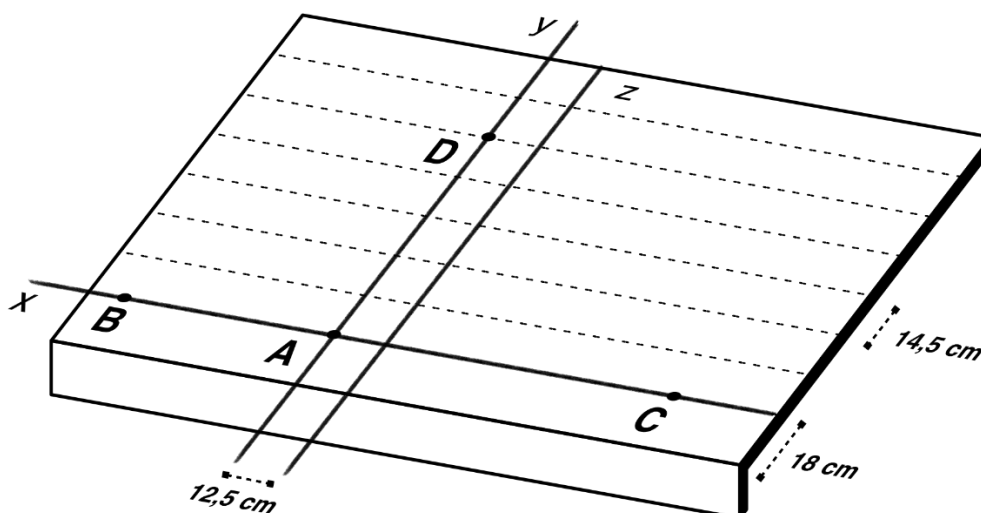

Fig. 3 - Tracing of the pitch [cm]
- Draw horizontal lines parallel to **x**, each one distant 14,5 cm from the previous, until you reach the ridge - see Fig. 3.